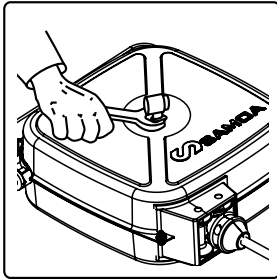

fig. 4a
1. Unscrew and remove the swivel as shown in figure 4a and 5a (see drawing related to the corresponding part nr).